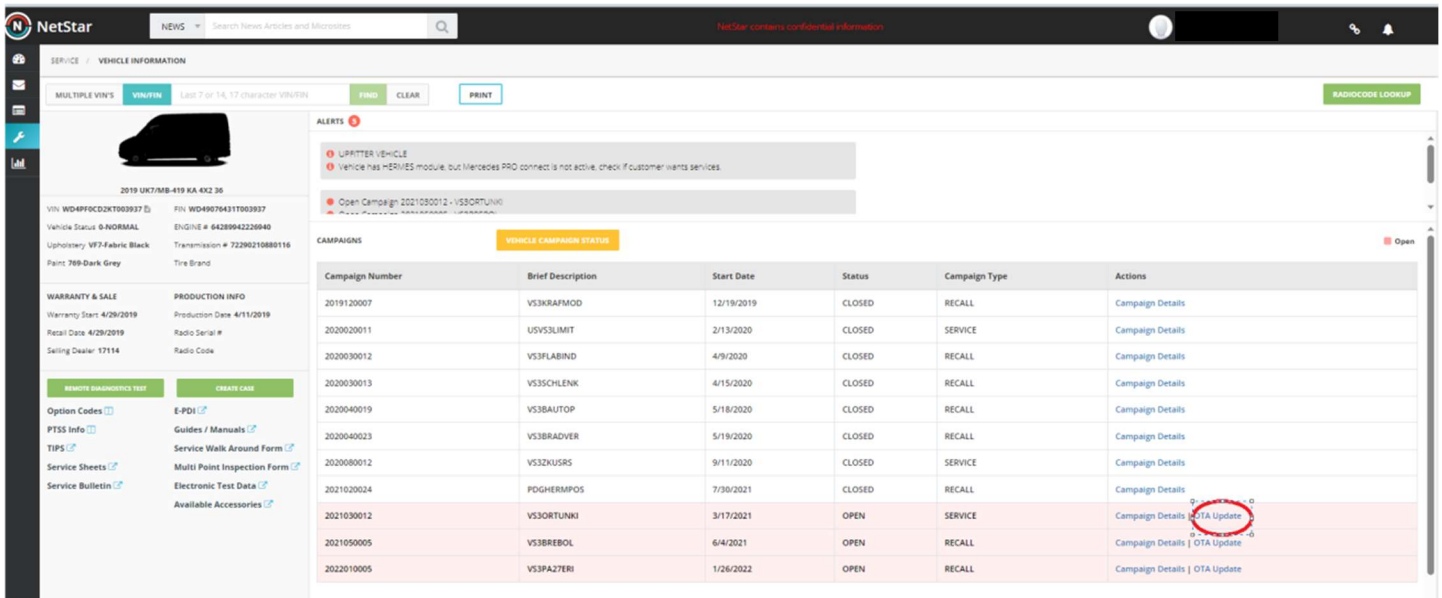

Figure 4 – In the "Actions" column, "OTA Update" is available, listed next to Campaign Number 2023110006
2. Search for the vehicle identification number (VIN) (Figure 4).
3. Click on the "OTA update" link (Figure 4).